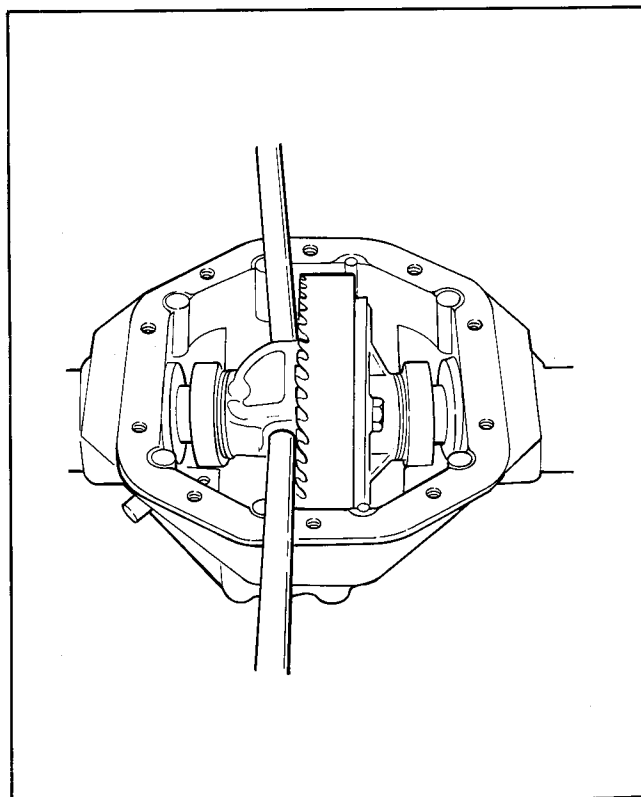

Figure 4-7 – Prying Out Case
- h. Pry carrier from differential case assembly with two pry bars, Figure 4-7.